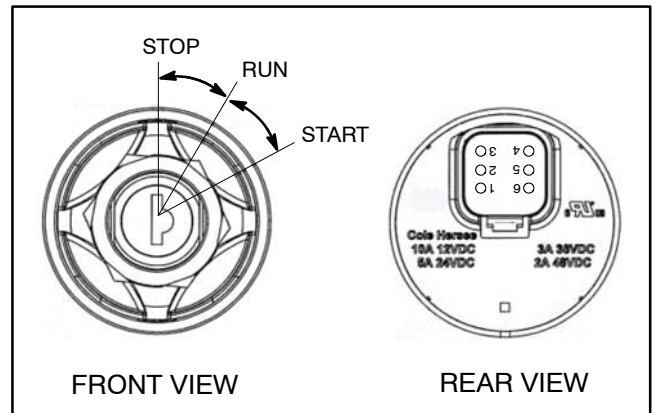

Figure 28
The ignition (key) switch is located on the control panel and has three (3) positions: STOP, RUN and START (Fig. 28). The Toro Electronic Controller (TEC) monitors the operation of the ignition switch.
5. The ignition switch terminals are identified in Figure 28 and the circuitry of the switch is shown in the chart in Figure 29. With the use of a multimeter (ohms setting), the switch functions can be tested to determine whether continuity exists between the various terminals for each switch position. Verify continuity between switch terminals.